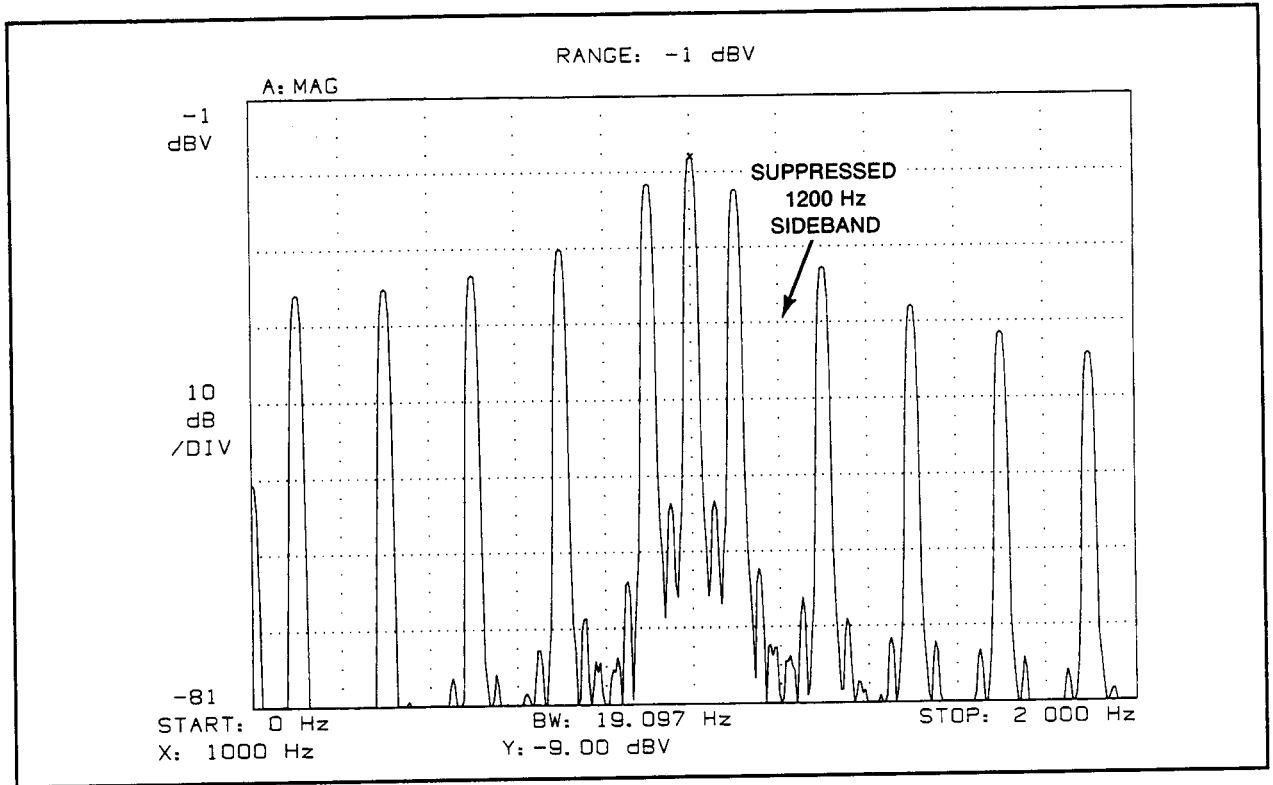

Figure 4-9. Tone Burst Spectrum with Suppressed 1200 Hz Sideband
6. Adjust the spectrum analyzer to observe the 1 kHz tone burst and its 100 Hz sidebands. Refer to Figure 4-9.